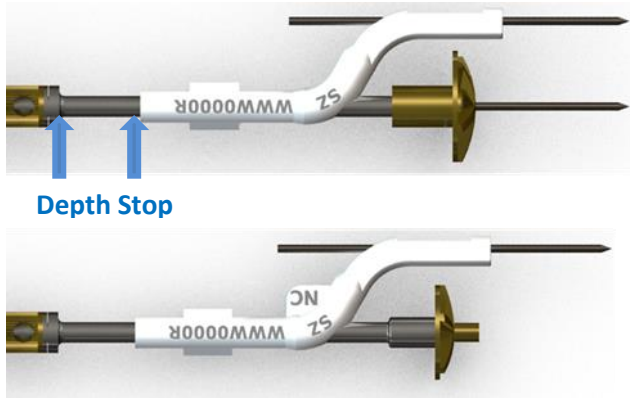

Figure 11: TOP: Cannulated Reaming method incorporates both guide pins. For tighter exposure, a Non Cannulated version is available (marked “NC”).
- Select the Ream Guide with the “NC” flag. Slide the Ream Guide onto superior pin (See Fig 11.)